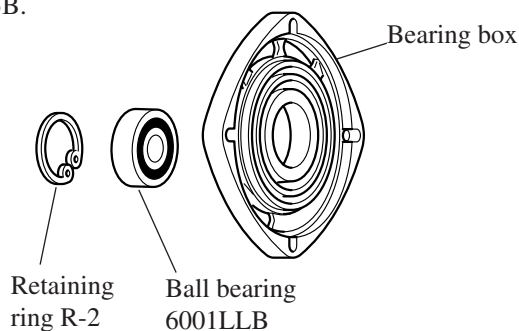

Fig.3B
- (2) Set ball bearing 6001LLB into bearing box. And then, install retaining ring R-28 to bearing box to hold the ball bearing. See Fig.3B.